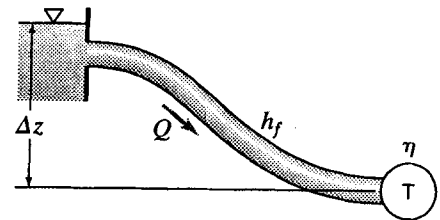

Figure X5.9.1
5.9.2 A turbine, located 255 m below the water surface at intake (Fig. X5.9.1), carries a flow of 3.5 m³/s. The head loss in the pipeline leading to it is 10 m. Find the power (kW) delivered by the turbine if its efficiency is 92 percent.